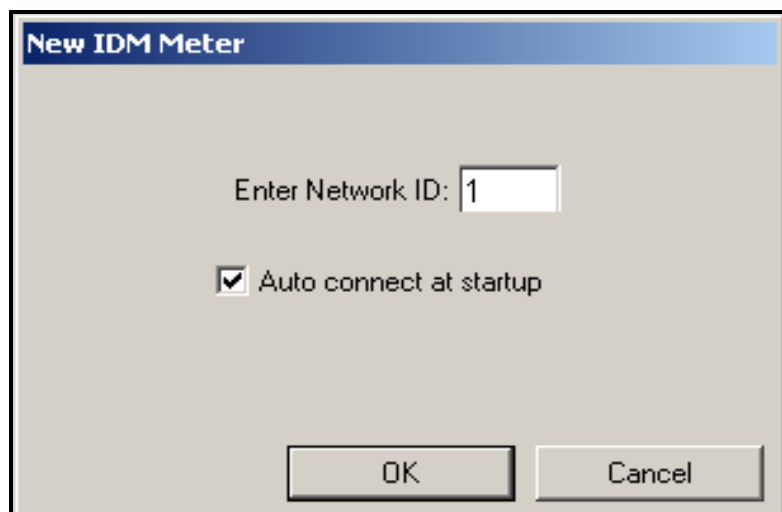

Figure C-5: New IDM Meter Screen
4. The “*New IDM Meter*” screen (shown in Figure C-5 below) opens. Enter the Network ID number for the meter, and click [OK].